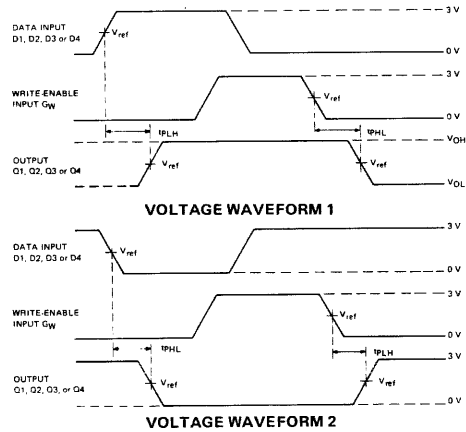

FIGURE 3
- C. In Figure 3, each select address is tested. Prior to the start of each of the above tests, both write and read address inputs are stabilized with  $W_A = R_A$  and  $W_B = R_B$ . During the test  $G_B$  is low.